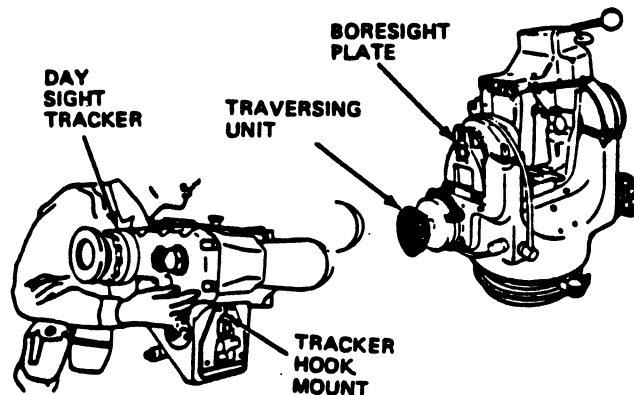

Fig 2-27. Installing day sight tracker--continued.
Step 2. Tilt the top of the tracker slightly toward the traversing unit. Guide the tracker hook mount of day sight tracker over the tip of the traversing unit boresight plate (fig 2-27).